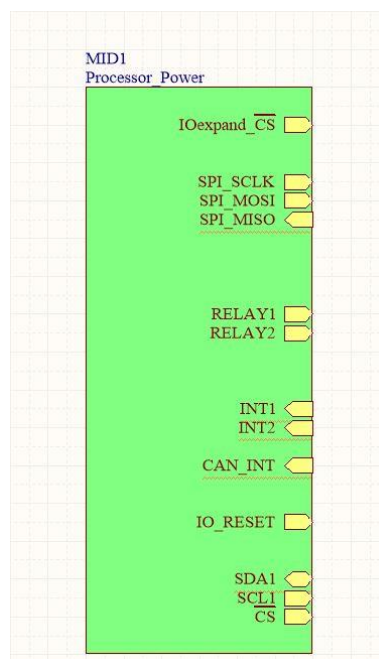

Figure 3. Sheet Symbol Alignment
17. Select and reposition the sheet entries using Figure 3 as reference.